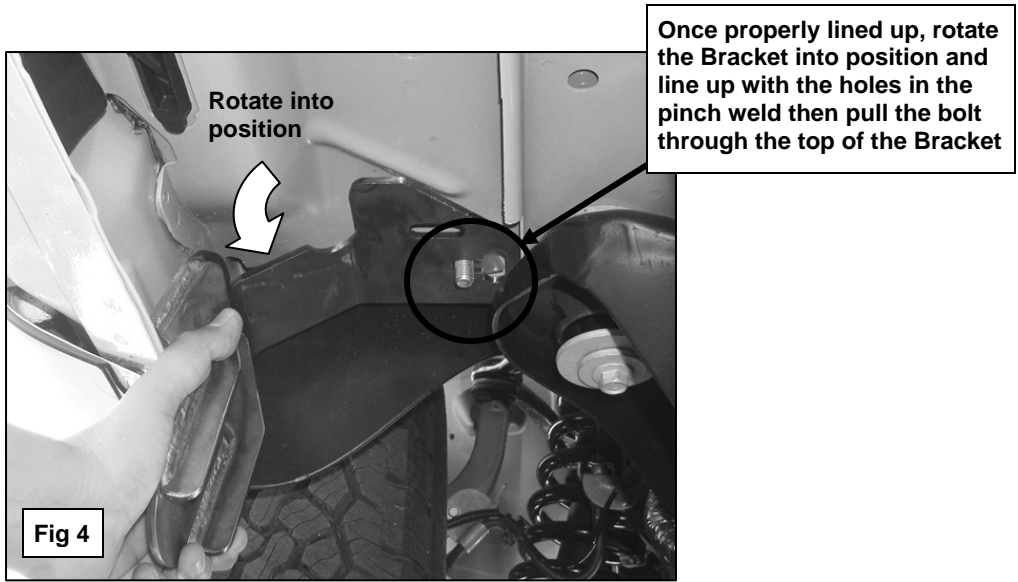

Fig 4
Once the top of the Bracket is properly lined up in the T-Slot, rotate the bottom of the Bracket into position with the holes in the pinch weld. Secure the 12mm threaded end of the Nut and Bolt Plate with (1) 12mm Flat Washer, (1) 12mm Lock Washer and (1) 12mm Hex Nut. Rotate the Nut and Bolt Plate around to line up the Nut with the remaining hole and thread (1) 10mm x 35mm Hex Bolt, (1) 10mm Flat Washer and (1) 10mm Lock Washer into the Nut, **(Figure 4)**. Do not tighten at this time.